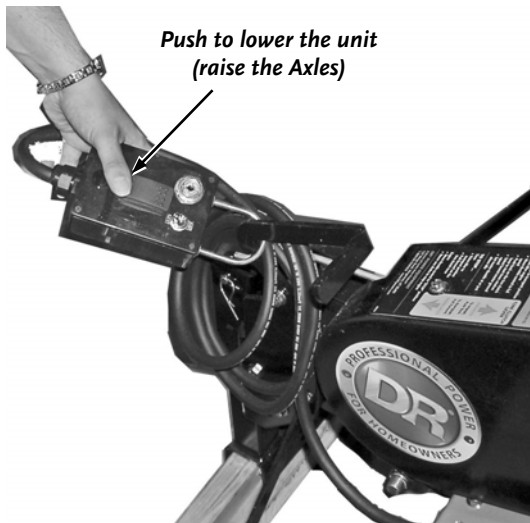

Figure 8
9. Using the Control Box (**Figure 8** on page 10), lower the Tines all the way down, which will raise the Wheel Axles from the pallet.